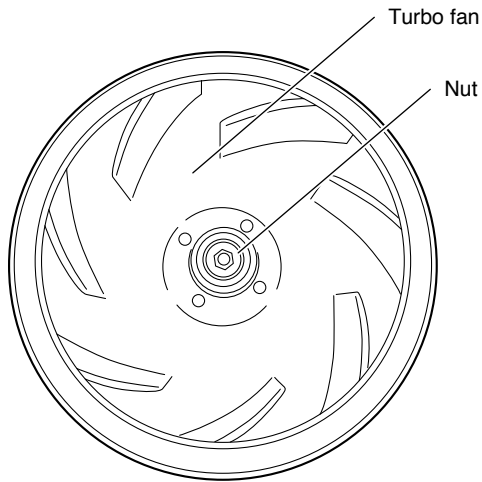

Fig.22
- (1) Remove a nut and remove the turbo fan. (Fig. 22)